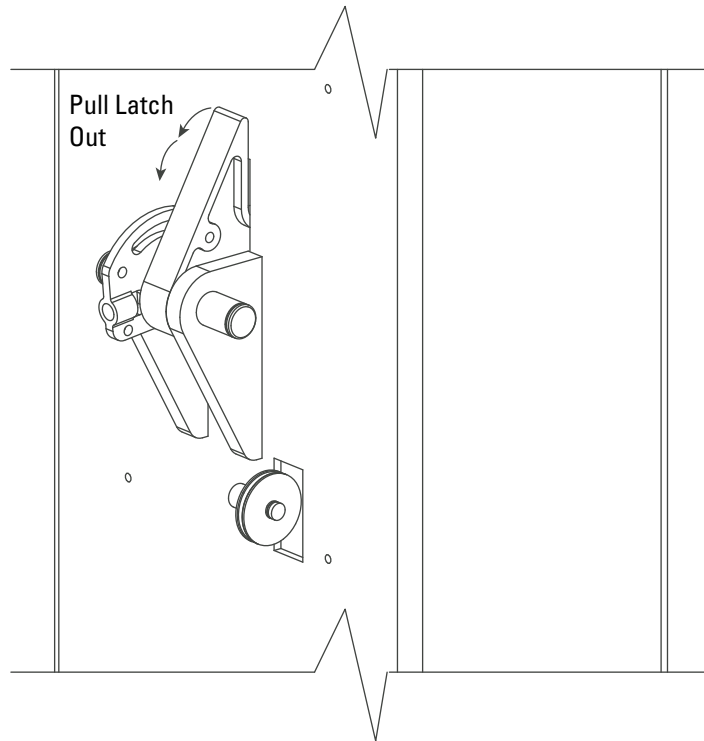

Figure 6
6. **Carriage Placement.** Disengage the latch by pulling out the latch on the column, figure 6. Slide the carriage to the leg's baseplate. Engage the latch by releasing the latch. Slide the carriage up until the first "click" is heard. Repeat the process for the other carriage.